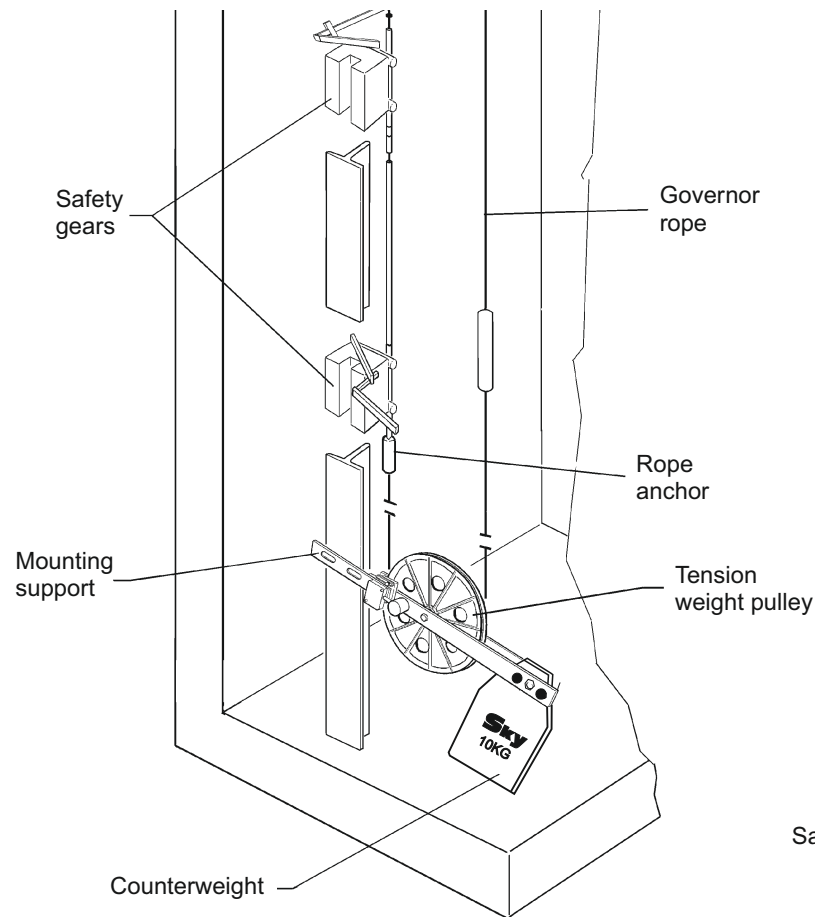

Fig. 1
- Supply the first rope-end with the rope-anchor (fig. 1 and 2) and attach it to the safety gear.